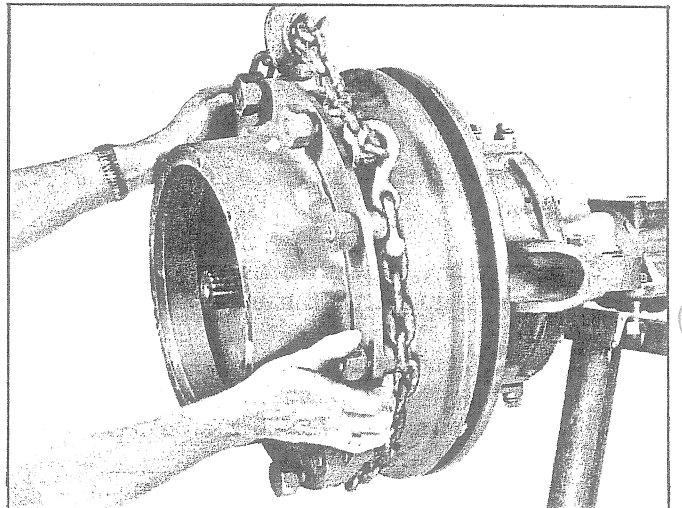

Fig. 82 - Removing Brake Drum and Hub Assembly
9. Pull straight out on brake drum and hub assembly, as shown in Fig. 82, to remove it from the axle. Refer to "Servicing Hub and Brake Drum Assembly" for service procedures.